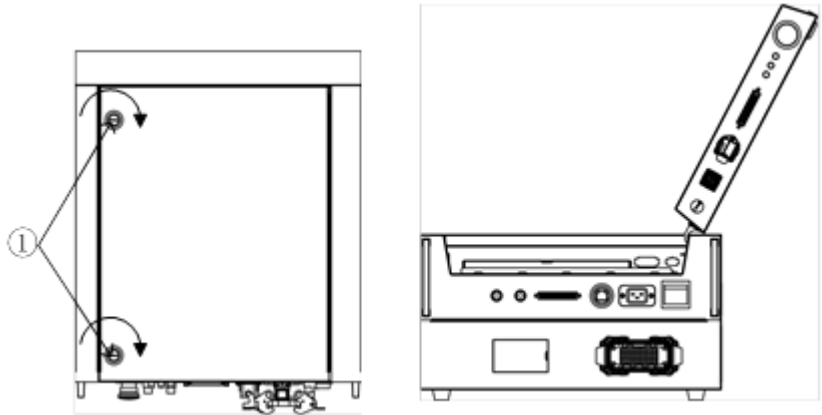

Figure 9-1 Opening method of top cover of control cabinet
2. Turn the screwdriver 90 degrees clockwise to open the cabinet door, as shown in Figure 9-1.